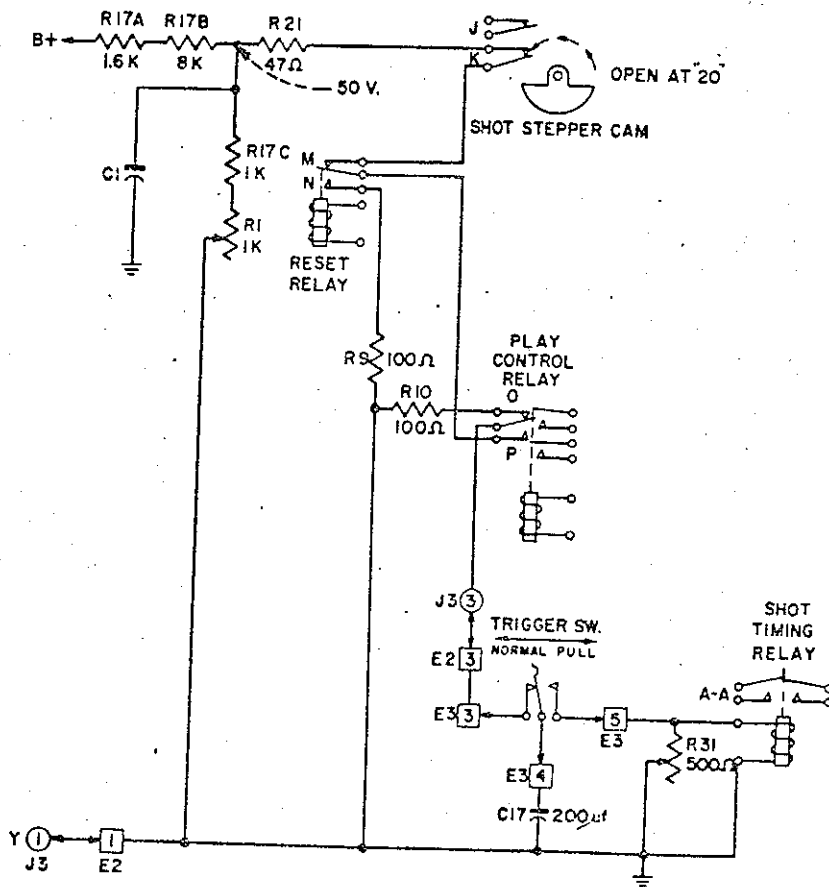

Figure 4.
During this starting interval, the play control relay and the reset relay are energized. The 50-volt supply for the shot timing circuit is closed at the play control relay (P) but open (and the timing condenser shorted through a 100-ohm resistor) at the reset relay (M and N). See Figure 4.
The 200mfd. shot timing condenser is connected to the 50-volt DC supply through the play control relay (P), the reset relay (M), the shot stepper (K) and the trigger switch. See Figure 4.
The shot position is of brief duration and occurs when the gun trigger is pulled. The center blade of the trigger switch transfers the 200 mfd. condenser (from the 50 volt charging potential) to the shot timing relay coil. This is shown in Figure 4. The shot timing relay is energized by the discharge of the condenser and remains in the energized position for approximately 1/10 to 1/8 seconds.